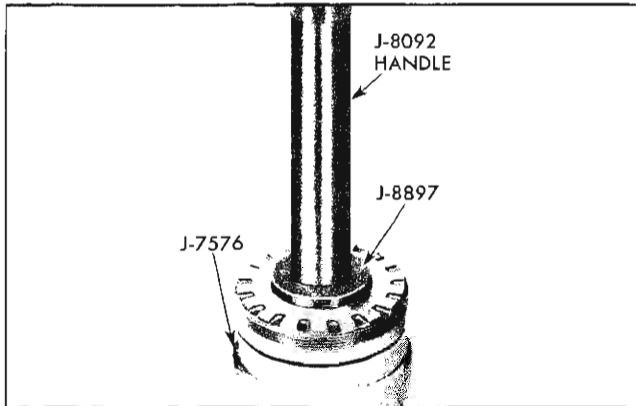

Fig. 4-54 Tool Positioned to Remove Front Pinion Bearing Outer Race (Synchro-mesh)
**STANDARD TRANSMISSION:** Supporting nut on tool J-7576 using J-8897 with J-8092 handle, press out race on arbor press (Fig. 4-54).